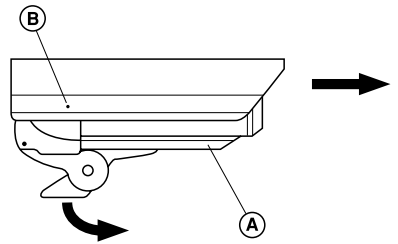

Fig. 2
3. Place the joint perpendiculatly to the housing (Fig. 2).
4. Loosen the screw (A) and unscrew the two screws (B) with 4mm allen key.
For easier access to the screws (B) push the sunshield forward (Fig. 2).